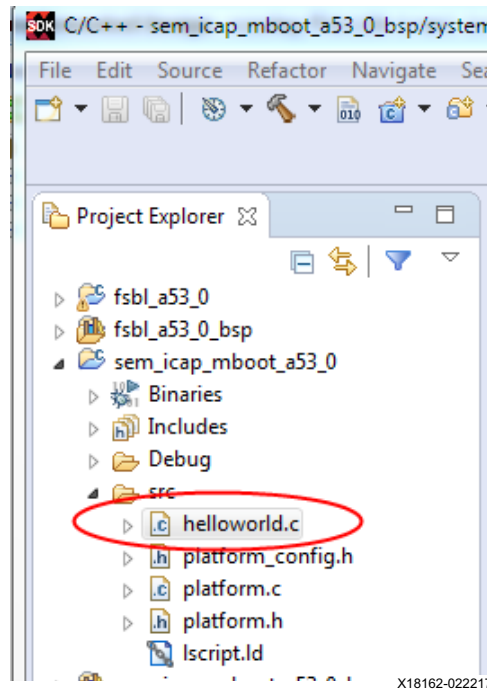

Figure 11: Design 1 - Delete helloworld.c
- c. Delete **helloworld.c** by right-clicking it, then select **Delete** in the project explorer. See Figure 11.